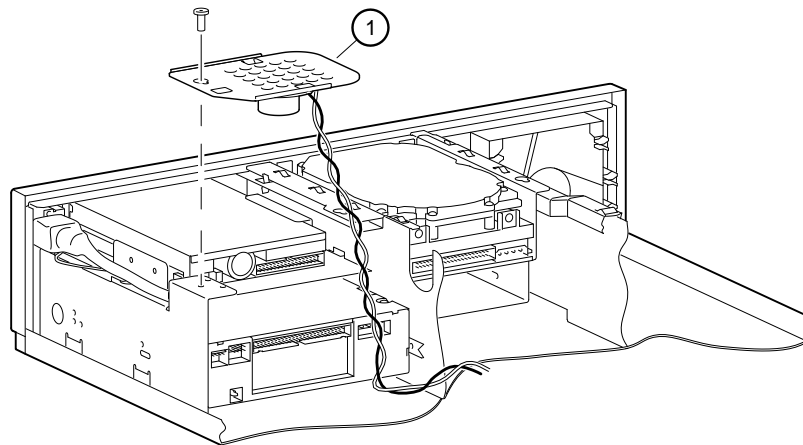

Figure 4-19 Removing the Speaker
5. Loosen the screw so that you can remove the speaker ①, as Figure 4-19 shows.